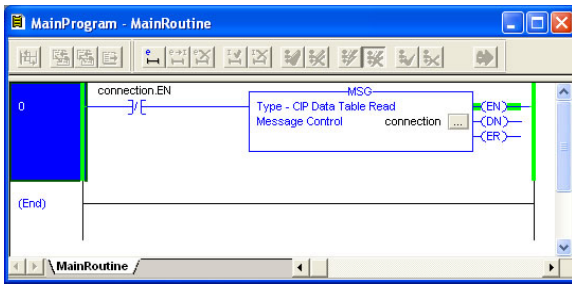

Figure 105: Complete Program
6) The program is now complete. Refer to Figure 105.